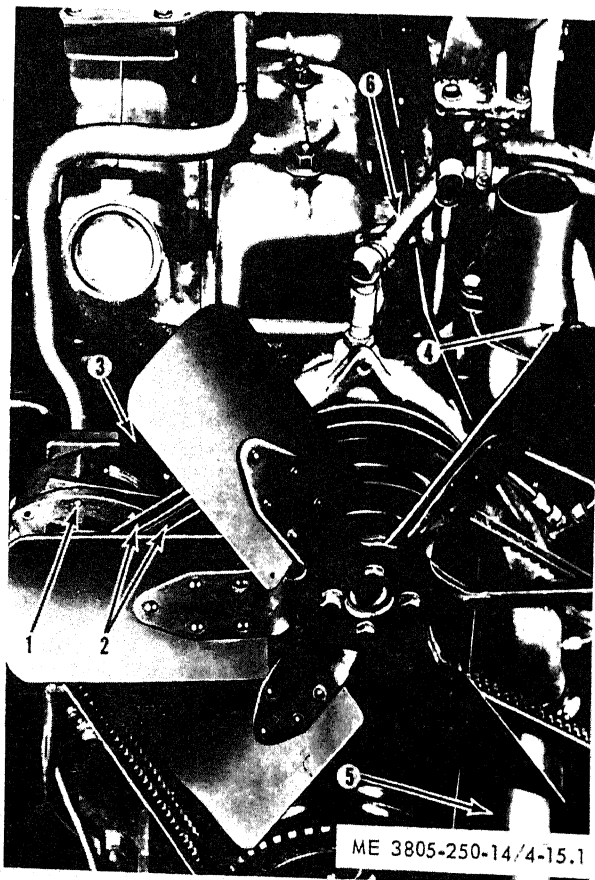

Figure 4-15.1. Water pump, removal and installation.
Figure 4-15.1 is added as follows:
(2) Loosen the alternator adjusting strap bolt (1, fig. 4-15.1) and remove the fan belt (2).
(3) Remove four bolts and lockwashers securing the fan to the pulley, and remove the fan.
(4) Disconnect the oil cooler line (3) and discard the gasket.
(5) Disconnect the clamp securing the by-pass hose (4) to the water pump housing.
(6) Disconnect the clamp securing the lower radiator hose (5) to the housing.
(7) Disconnect the air compressor line (6)
(8) Remove four bolts and lockwashers, and one washer and spacer securing the pump housing to the block. Remove the pump and discard the mounting gasket.